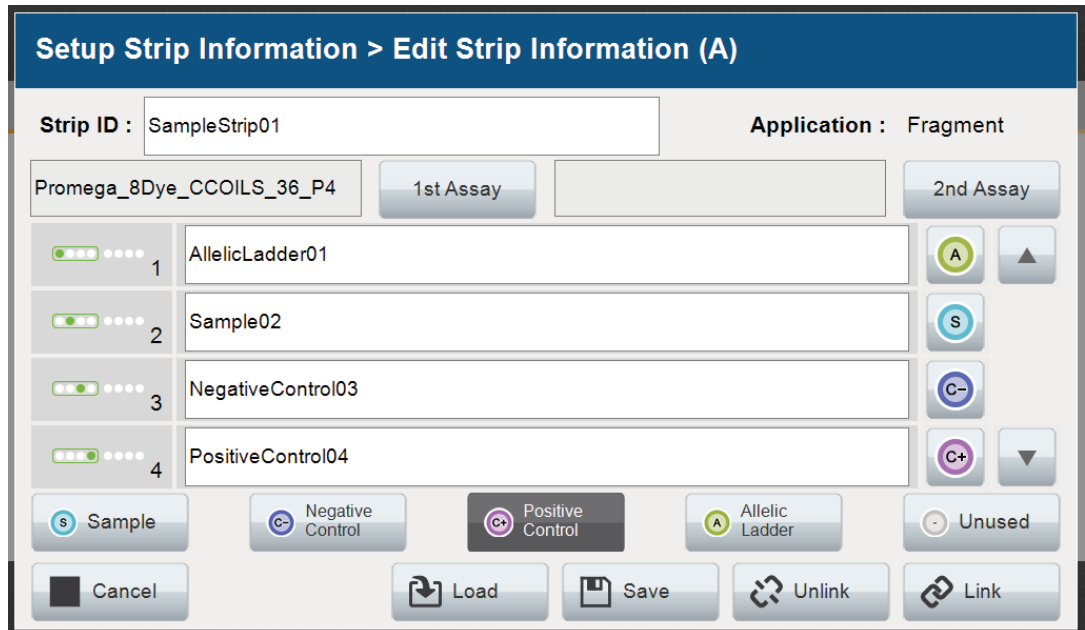

Figure 23. Completed 'Edit Strip Information' screen.
11. When all information is entered and verified for the strip, select **Link** on the lower right corner of the 'Edit Strip Information' screen (Figure 23). This will link the strip to the run. If you want to save the strip information to use in future runs, you need to save the information by selecting **Save** at the bottom of the 'Edit Strip Information' screen (Figure 23). This will save the strip information so that it can be loaded later into another run, as well as link the strip to the run. Refer to the *Spectrum Compact CE System Operating Manual #TMD058* for use of saved strip information.